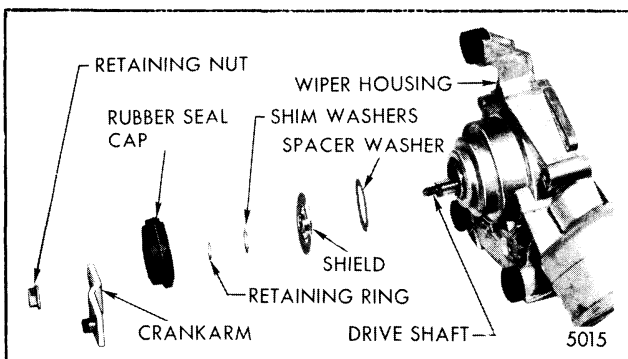

Fig. 2-44-Crank Arm Components-Exploded View
2. Remove crankarm retaining nut, crankarm, rubber seal cap, retaining ring, shim washers, shield and spacer washer in the order indicated (Fig. 2-44).
7. Reassemble the outer spacer washer, shield, shim washers, as required to obtain .004" (plus or minus .002") end play, snap ring and rubber seal cap in the order indicated. Refer to Figure 2-44.
1. Add or remove shim washers as required to obtain .004" (plus or minus .002") end play (Fig. 2-44).